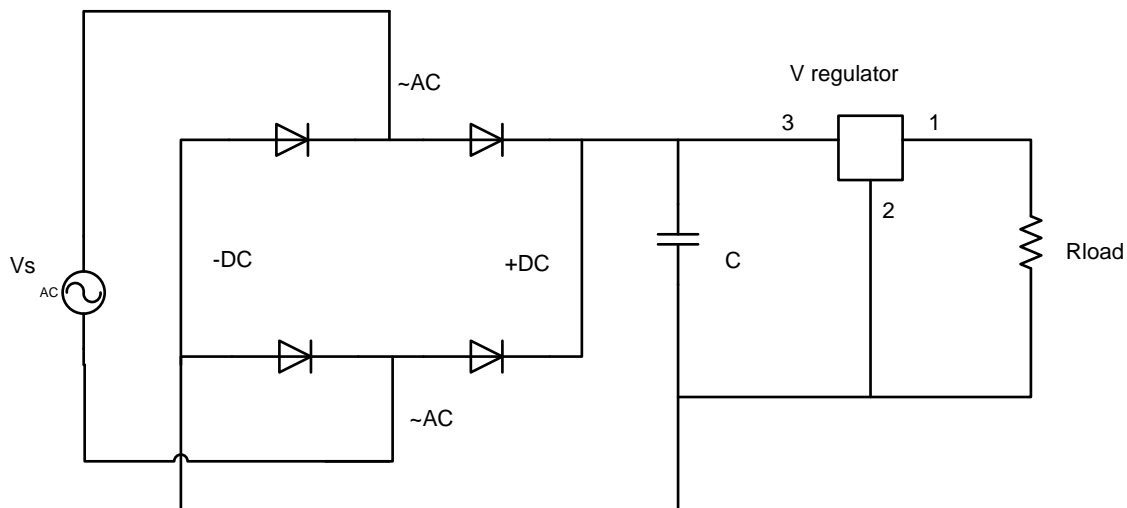

Figure 3
5.6. Construct the 340LZA-5.0 regulator circuit shown in Figure 3, being careful to observe the correct pin configuration of the regulator. Use two DC voltmeters one on (V_{in} Pin3) the other on (V_L Pin1). Set (V_{in} Pin3) to 10Vdc measure the load voltage for R_L equal to 330Ω , 220Ω , and 100Ω . Calculate the current for each of these cases. Does the value of the load resistor affect the output voltage? **No printouts.**